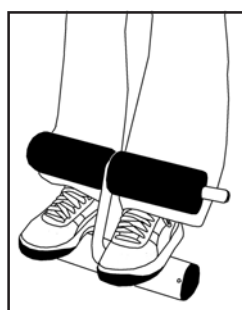

Figure 2
- BEFORE INVERTING, push the Ankle Clamp Adjustment Button to rotate the clamps to a snug and comfortable fit against the ankles (See Figure 2). Make sure your pant legs do not interfere with obtaining a secure closure.